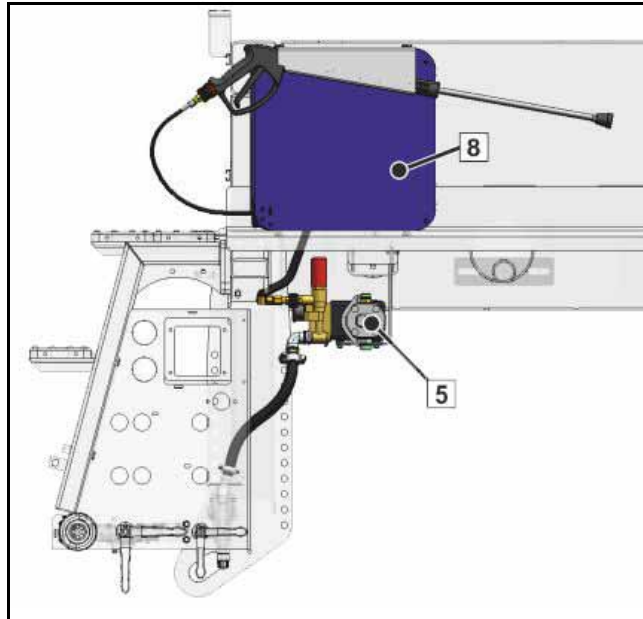

Fig. 568 Hose reel (8) fig. similar
The system is equipped with rolling equipment (8) (**Fig. 568**) for the high-pressure hose.